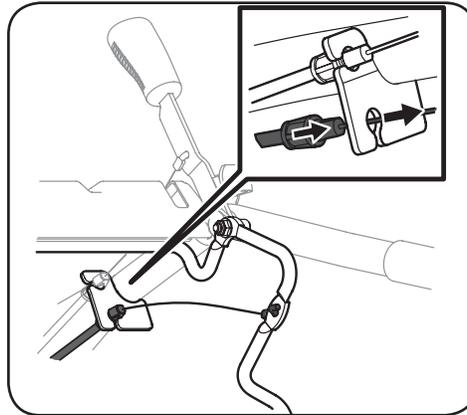

Figure 3-8
3. Snap the cable tab into place in the lower hole on the handle cable bracket. See Figure 3-8.